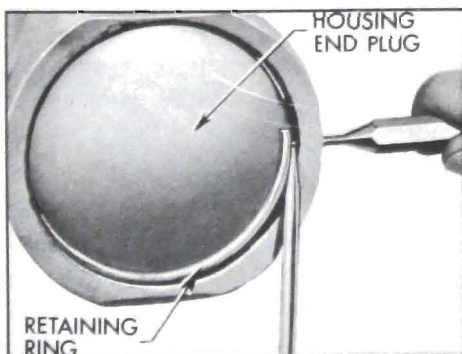

Figure 8-61—Removing Housing End Plug Retaining Ring
3. Rotate housing end plug retainer ring so that one end of ring is over hole in gear housing. Spring one end of ring with punch to allow screwdriver to be inserted to lift ring out. See Figure 8-61.